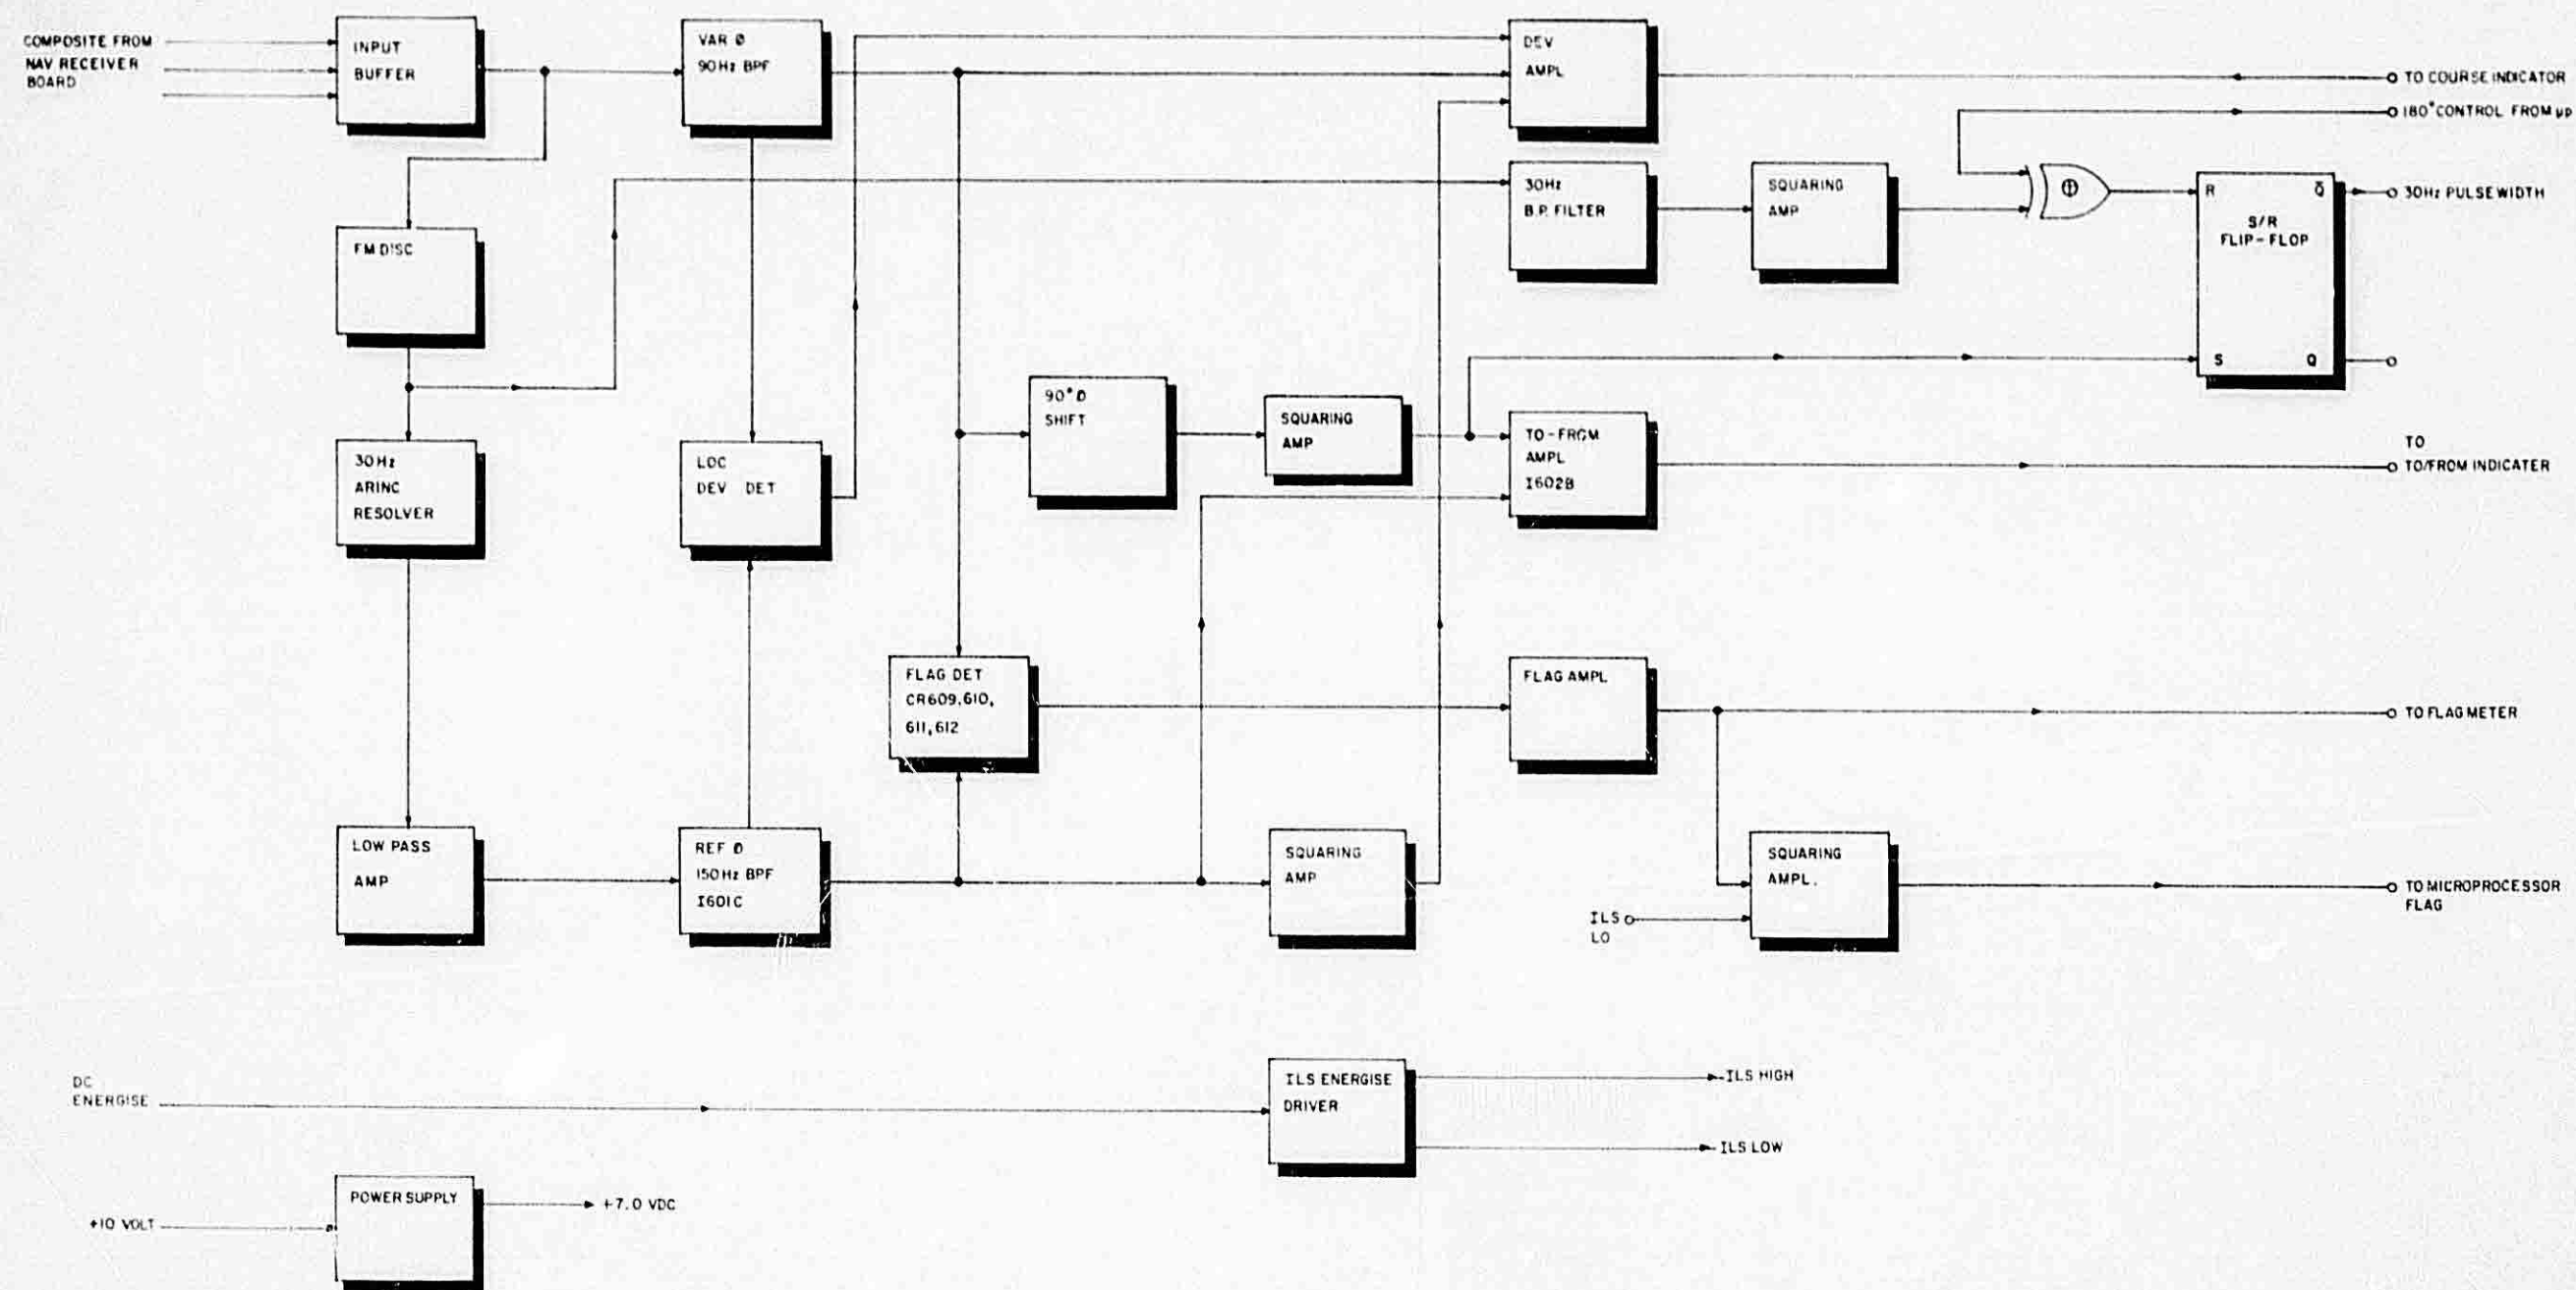

FIGURE 4-6 KX 165 VOR/LOC CONVERTER BLOCK DIAGRAM
4.2.6.1 VOR operation (Figure 4-6)
4.2.6.2 Localizer operation (figure 4-6)